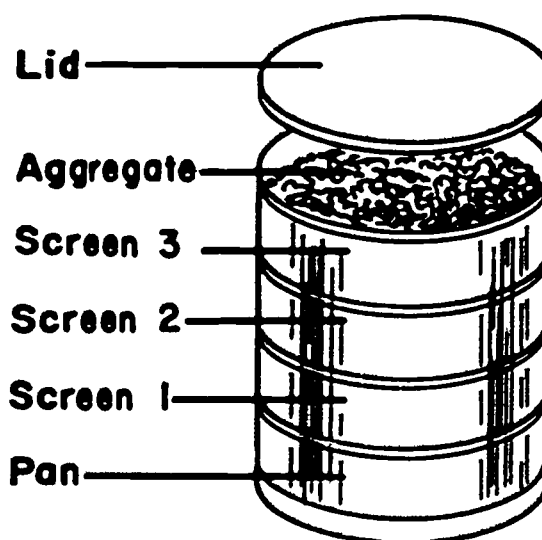

Fig. 49-1. Screen Placement for Refining
3. Stack the screens in proper order (largest hole size on top). Place a piece of paper under them. See Fig. 49-1.